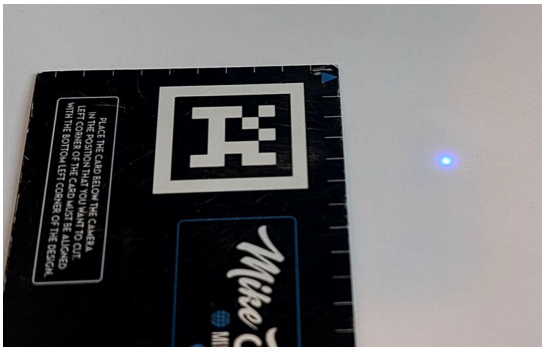

Fig. 20
1. Your Galvo came with a black anodized aluminum card that can be placed on to your desired material under the laser head (see Fig. 20).